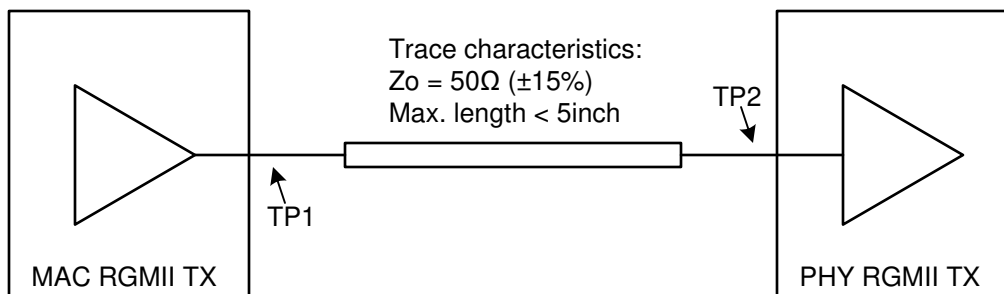

Figure 7-2. RGMII TX Requirements
- Figure 7-2 shows a RGMII interface requirements for TX* signals. MAC RGMII driver output impedance should be 50 Ohm +/-20%.
- Skew for all RGMII TX signals at TP2, in Figure 7-2, should be <±500ps.
- Signal Integrity at TP1 and TP2, in Figure 7-2, should be verified with IBIS model simulation and ensured conformance to following requirements: